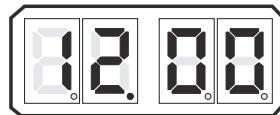

Figure 10-9: Example Display of Applied Battery Voltage
- The displayed value is in “real time” and provides a rough estimate of the DC voltage applied to the Processor. The reading is accurate to within 0.50 DC. Refer to Figure 10-9: Example Display of Applied Battery Voltage
- H Pressing the Up or Down (Scroll) Push Button once more, returns you to the Applied Battery Voltage. (Figure 10-9: Example Display of Applied Battery Voltage)